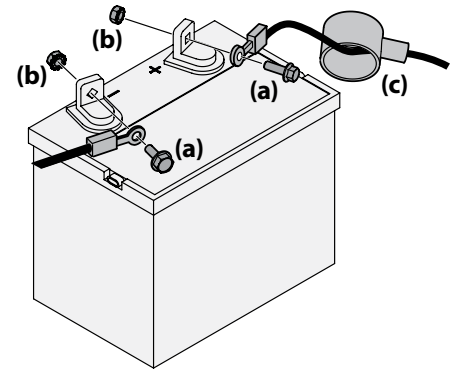

Figure 2-14
- Remove the plastic cover, if present, from the positive battery terminal and attach the red cable to the positive battery terminal (+) with the bolt (a) and hex nut (b). See Figure 2-14.
- Remove the plastic cover, if present, from the negative battery terminal and attach the black cable to the negative battery terminal (-) with the bolt (a) and hex nut (b). See Figure 2-14.